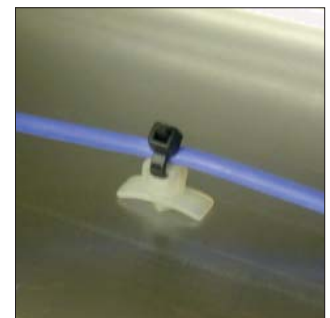

Figure 3.
3. Fix the push on clips (two on either side) to the inside of the pressure plate as shown in Fig. 1 (the supplied push on clips are a press fit into their fixing holes (ø3.5mm)). Proceed to attach the neutral star link connection cable to the push on clips using the tie wraps as shown in Fig. 3 below.